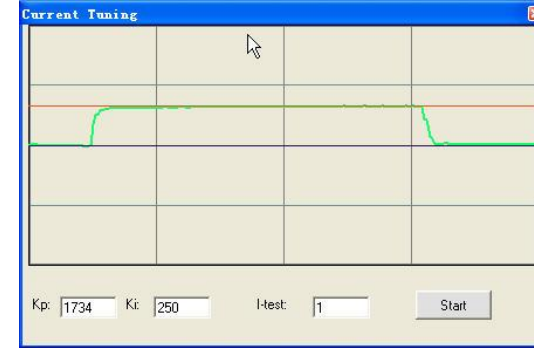
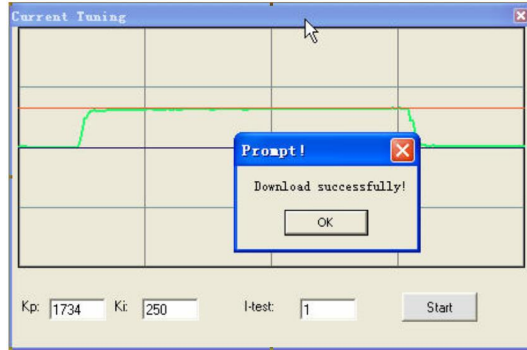

Figure 22: Current Tuning window
Figure 24: Finish tuning and save setting to the Driver
**Start button:** The user can start a Step Response test by clicking this button. Start/Restart a Step Response test to get an optimum response like Figure 22, and remember to save the settings to the Driver when finish tuning. See Figure 24.